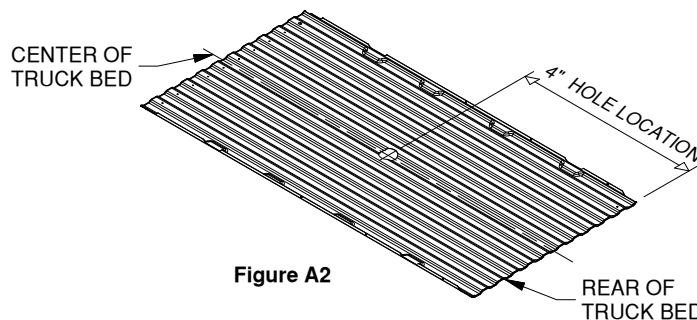

Figure A2
5. **Mark the 4" hole location.** Using a tape measure hooked over the rear edge of the bed (at tailgate end), measure the location for the hole as shown in Figure A2. Next, locate the center of the bed by measuring the distance between the wheel wells and dividing by two. The center of the hole will be at the intersection of the center of the bed and the first distance measured.